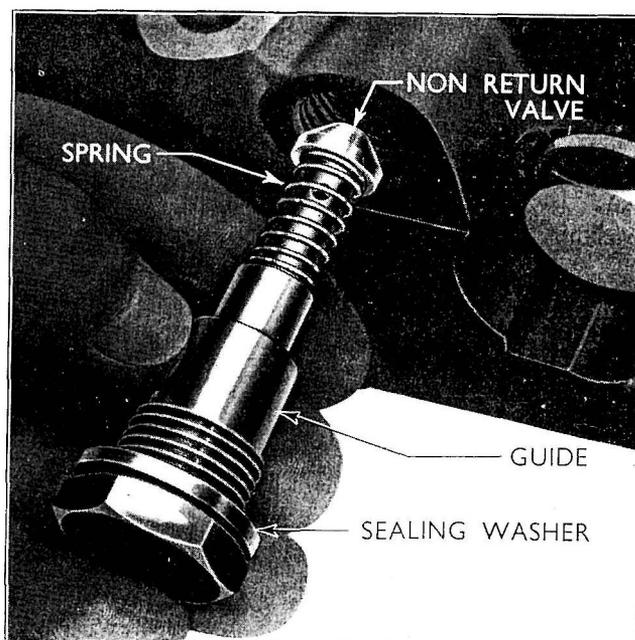

Fig. 187
- 2 Remove the washer, non-return valve spring, and non-return valve (see Fig. 187).
4 Remove the non-return valve by unscrewing the hexagonal plug adjacent to the unloading valve seat, and withdraw the plug, special washer, spring and valve (see Figs. 187 and 190).